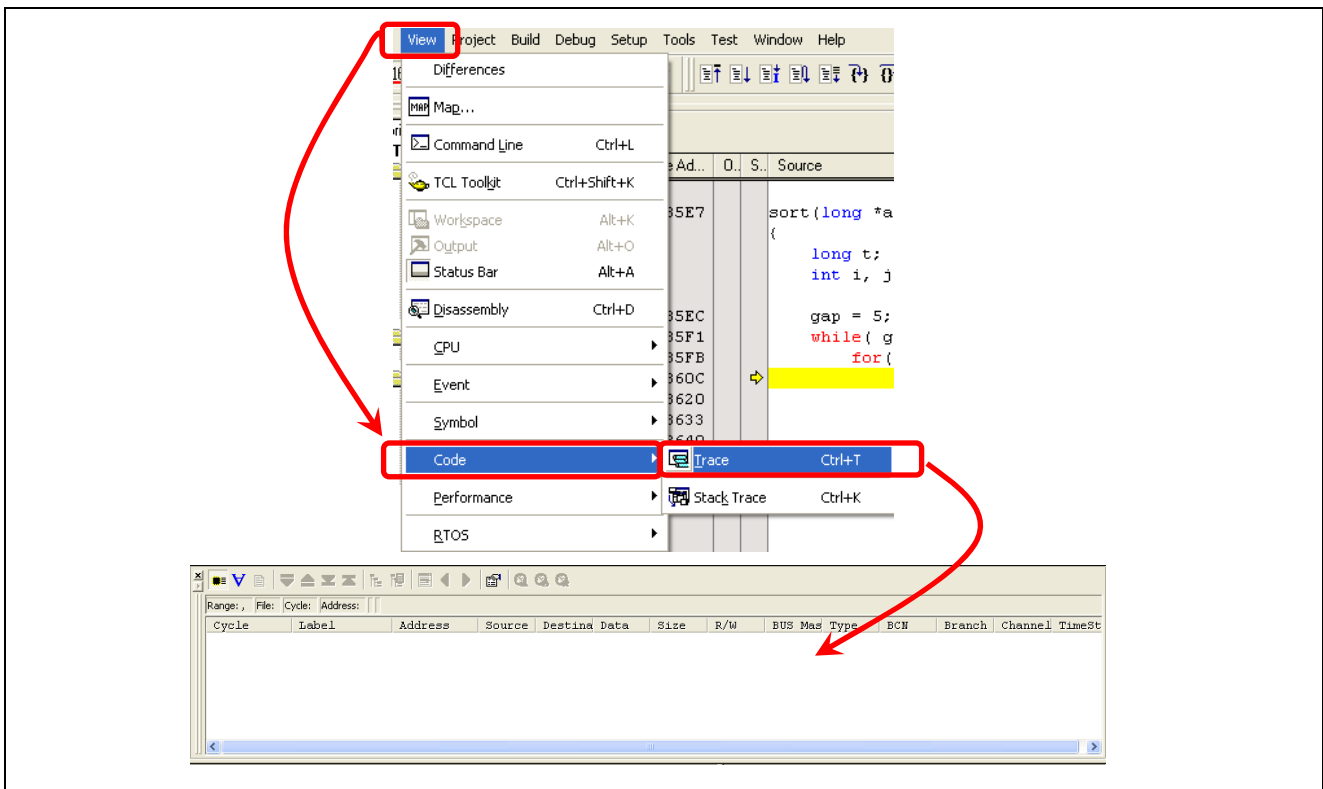

Figure 4.59 Opening the [Trace] Window
(1) Select [View -> Code -> Trace] as shown in Figure 4.59 to open the [Trace] window.